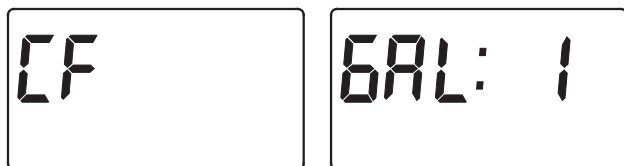

FIG. 24
- 4. CHEMICAL FEEDER TRIP VOLUME:** If you have set the auxiliary output control to CF (Chemical Feeder), you will need to set the volume of water which must flow past the turbine before the auxiliary output is turned on. With the alternating screens in Fig. 24 shown, use the $\triangle$ UP or ∇ DOWN buttons to set the trip volume, in gal-